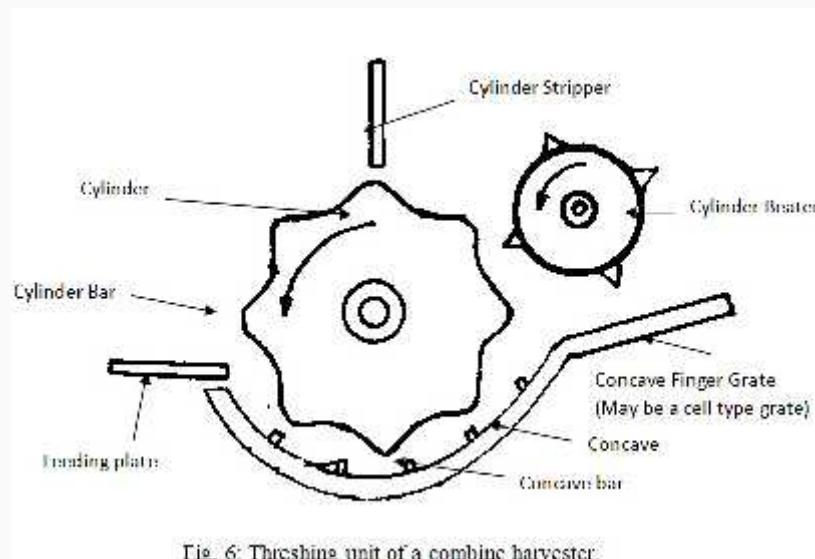

Fig. 6: Threshing unit of a combine harvester.
**Tractor rear mounted PTO operated self-raking reaper:** The machine carries a cutter bar of 1.5m length, the drive to which is given from PTO of a tractor. It is a side delivery machine in which crop is collected over a platform and is delivered on one side in the form of bound bunches of desired size (Fig. 6). The raking and sweeping of harvested crop is done mechanically. A profile cam controls raking motion. An index lever regulates the movement of cam rollers in such a way that either of first, second, third or fourth rake sweeps out the cut crop laid on the platform. The crop is tied into bundles of desired size manually. It can cover about 3 ha/day with field efficiency of 85%. The grain loss varies between 0.2-3.1percent.
The reel consists of a number of wide slats or arms with battens arranged parallel to the cutter bar to hold the crop being cut by the knife and to push and guide it to feeder conveyor auger. The reel may be of spring type or slat type. The reel revolves in front of cutter bar while working in the field. The cut crop is then fed to cylinder and threshing takes place between cylinder and concave units of machine. The basic components of threshing unit of combine are similar to that of power thresher (Fig. 6).